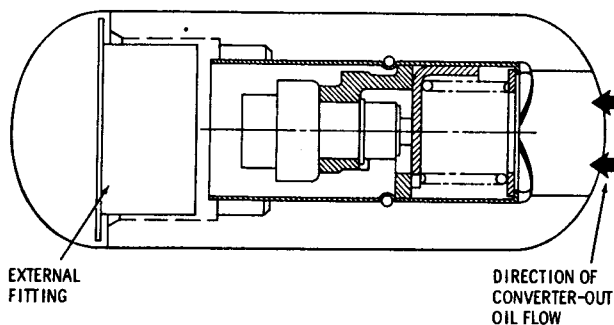

Fig. 6-7. Installation diagram of thermostat assembly
(1) If plugs 37 and 39 were removed, replace them. Tighten the plugs sufficiently to prevent leakage. If dowel pins 41 were removed, install new dowel pins. Press the pins into their bores until they protrude 0.430 to 0.450 inch (10.92 to 11.43 mm) above the housing splitline.
(2) If the transmission is equipped with an internal thermostat assembly, install lubrication bypass tube 30 into the rear face of converter housing 38. Install sealring 32 onto thermostat assembly 31. Install thermostat assembly into the converter housing, as shown in figure 6-7.